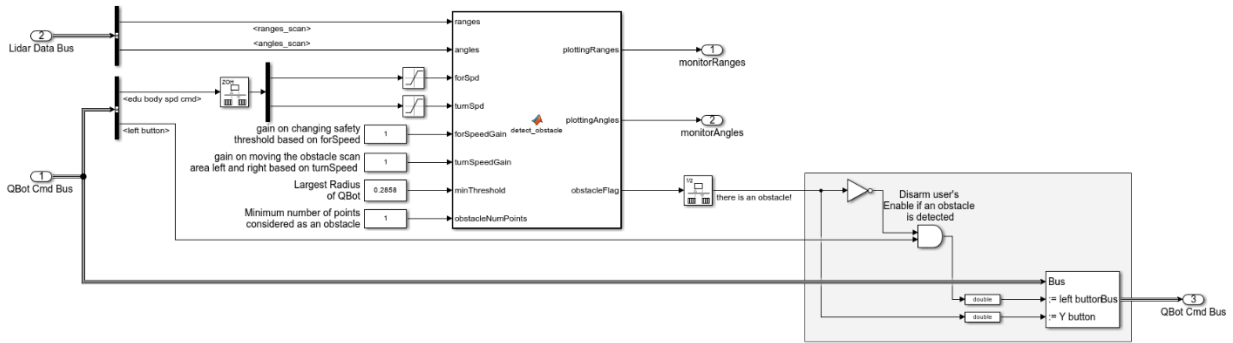

Figure 4. Obstacle Detection via Lidar block
- Go back to the main Simulink model and open **Obstacle Detection via Lidar** subsystem, as shown in Figure 4. This subsystem uses the LiDAR measurement to determine when the QBot should stop to avoid collision with an obstacle. In this lab, you will implement a simple obstacle detection algorithm using the **MATLAB Function** block labeled **detect_obstacle**.